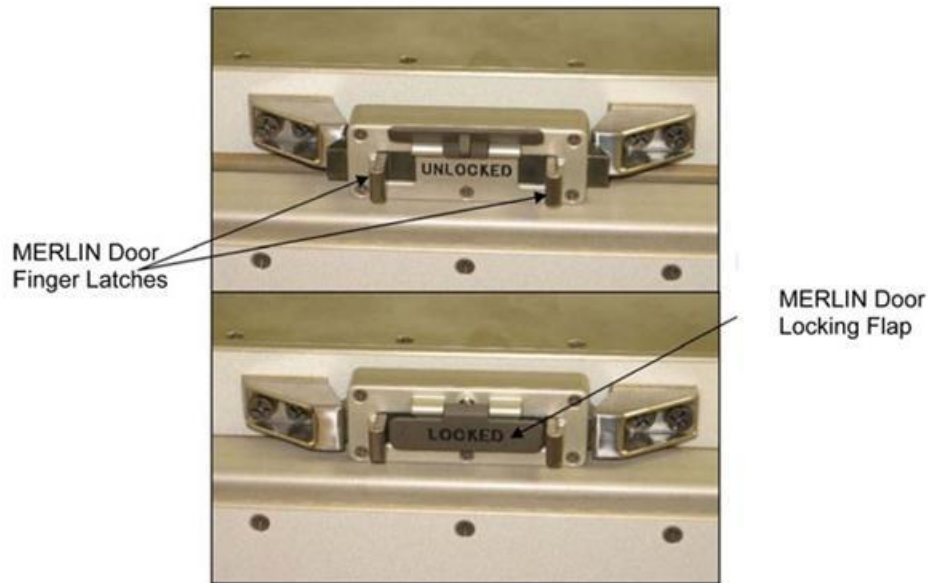

Figure 6. MERLIN Door Lock Mechanism
- 5.11 Verify locker door finger latches are fully spread apart and locking flap is positioned between finger latches. Refer to Figure 6.